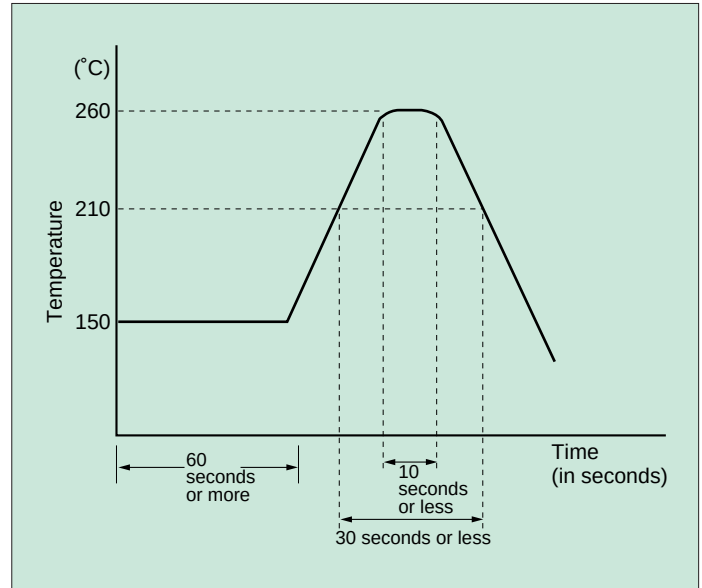

Figure 1
- (1) Lead temperature must be not more than 260°C, and flow time must be not more than 10 seconds.
- (2) Preheat leads at 150°C $\pm$ 10°C, for 60 $\pm$ 30 seconds.
- (3) Keep the package resin surface temperature suppressed to 210°C or lower.
- (4) The recommended thermal profile is as shown on Figure 1.
- (5) Notes on heating